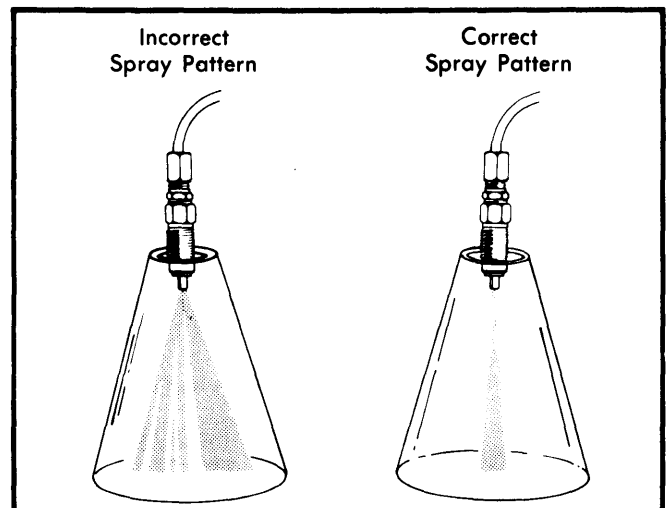

Fig. 8 Nozzle Spray Pattern
It is extremely important to note that the engine **MUST NOT** be operated without vacuum pump or oil pump drive assembly installed. Without this unit in place, no lubrication will be available within the engine. See Fig. 8
3) Build nozzle pressure slow enough to determine exact minimum opening pressure of nozzle. Minimum opening pressure is 870 psi. When nozzle releases pressure, note spray pattern and compare with those shown in Fig. 8 If liquid stream of fuel is emitted, replace nozzle.